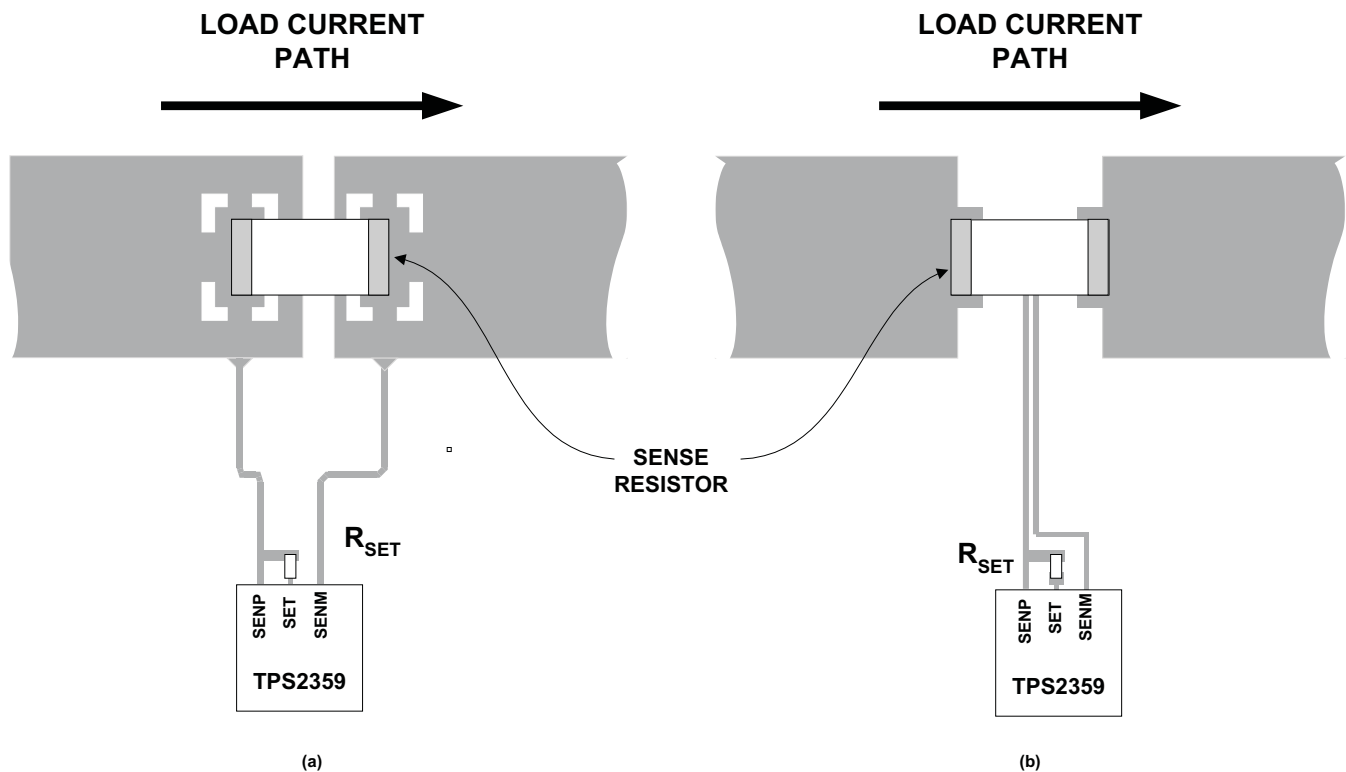

Figure 31. SENMx and SENPx Runs Side-by-Side to Maximize Common Mode Rejection
3. Minimize the loop area between the SENMx and SENPx leads by running them side-by-side. Use Kelvin connections at the points of contact with R_{SENSE} (Figure 31).